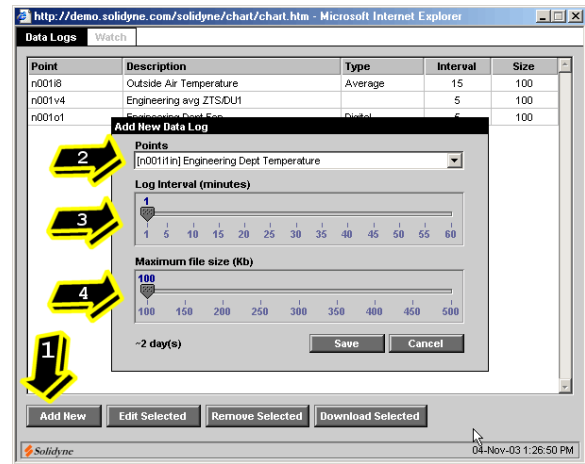

Figure 2
- Click the "Add New" button (Fig. 2, Item 1).
- Select the point that you wish to log (Fig. 2, Item 2)
- Slide to select the log interval (Fig. 2, Item 3)
- Slide to select the maximum file size (Fig. 2, Item 4)